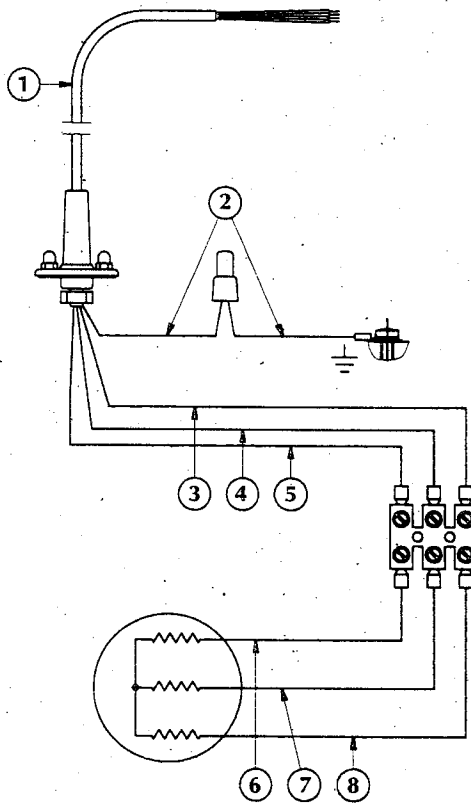

fig. 5 - Abb. 5 - fig. 5 - kuva 5 - afb. 5 - fig. 5 - εικ. 5
15.5. SCHEMA ELETTRICO ELETTROPOMPA TRIFASE (fig. 5)
15.5. WIRING DIAGRAM FOR THREE-PHASE ELECTROPUMP (fig. 5)
15.5. SCHEMA ELECTRIQUE ELECTROPOMPE TRIPHASEE (fig. 5)
15.5. SCHALTPLAN DREIPHASIGE ELEKTROPUMPE (Abb. 5)
15.5. ESQUEMA ELECTRICO ELECTROBOMBA TRIFASICA (fig. 5)
15.5. KRETSSCHEMA FÖR TREFAS ELPUMP (fig. 5)
15.5. LEDNINGSDIAGRAM FOR TREFASET ELEKTROPUMPE (fig. 5)
15.5. ELEKTRISCHE SCHEMA DRIEFASE ELEKTROPOMP (afb. 5)
15.5. ESQUEMA ELÉCTRICO DA BOMBA TRIFÁSICA (fig. 5)